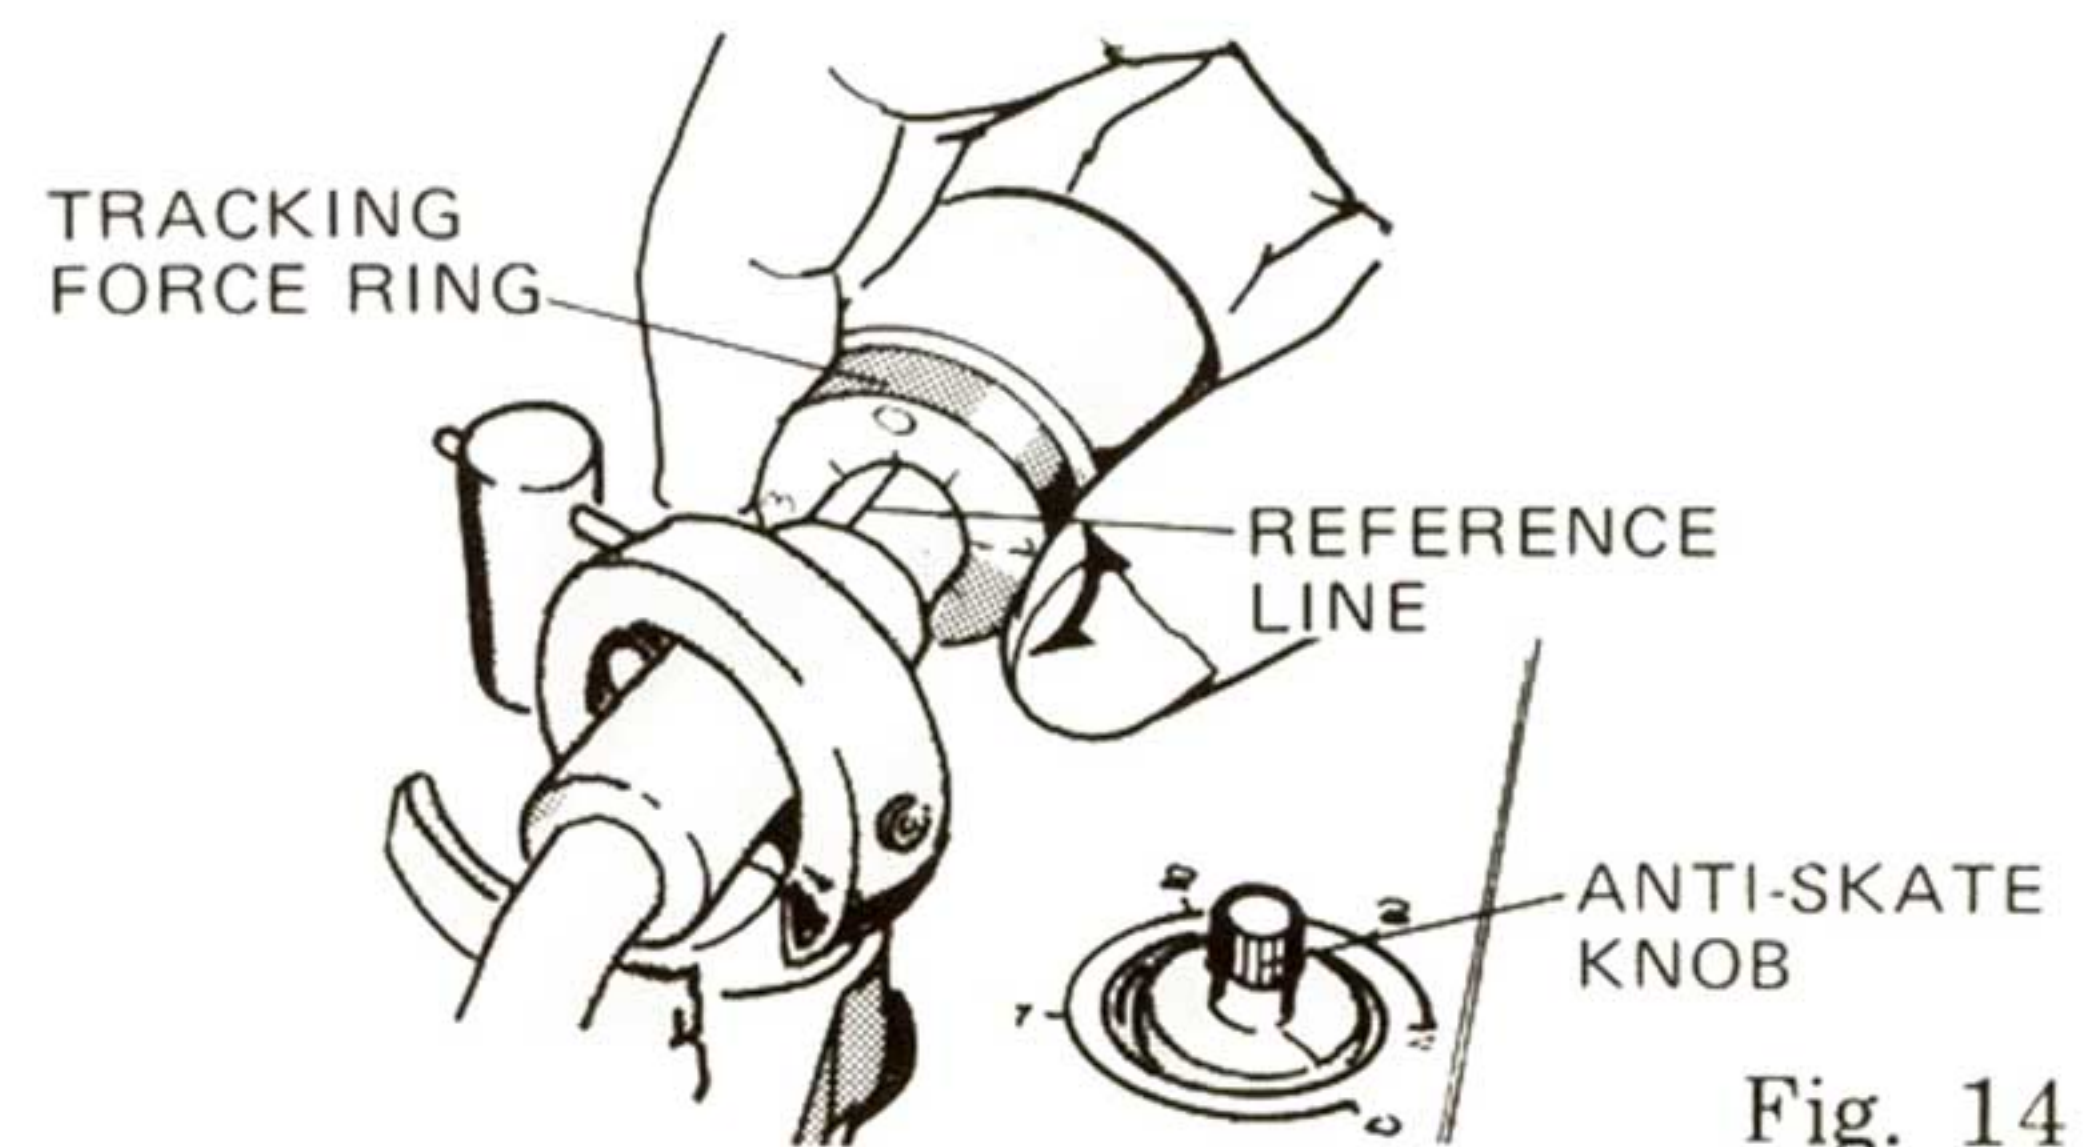

Fig. 14
1. Set ANTI-SKATE knob to 0 (Fig. 14).
7. Since the tonearm is balanced, the tracking force is zero, so turn the tracking force ring at the front of the counterweight (taking care not to disturb the counterweight) to align the 0 with the reference line (Fig. 14).